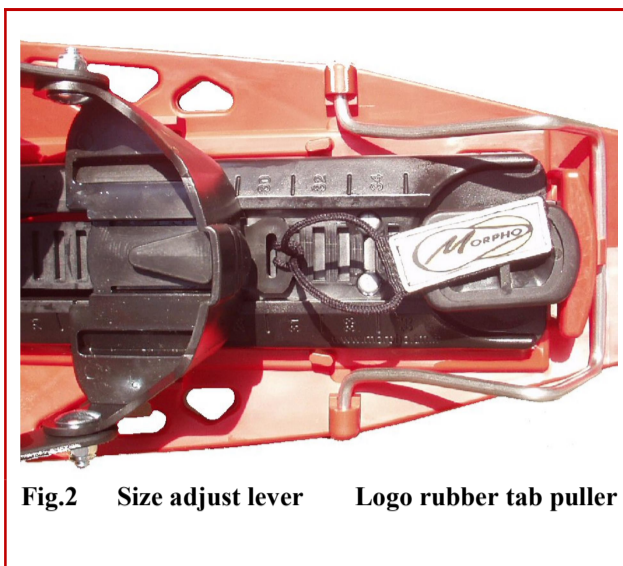
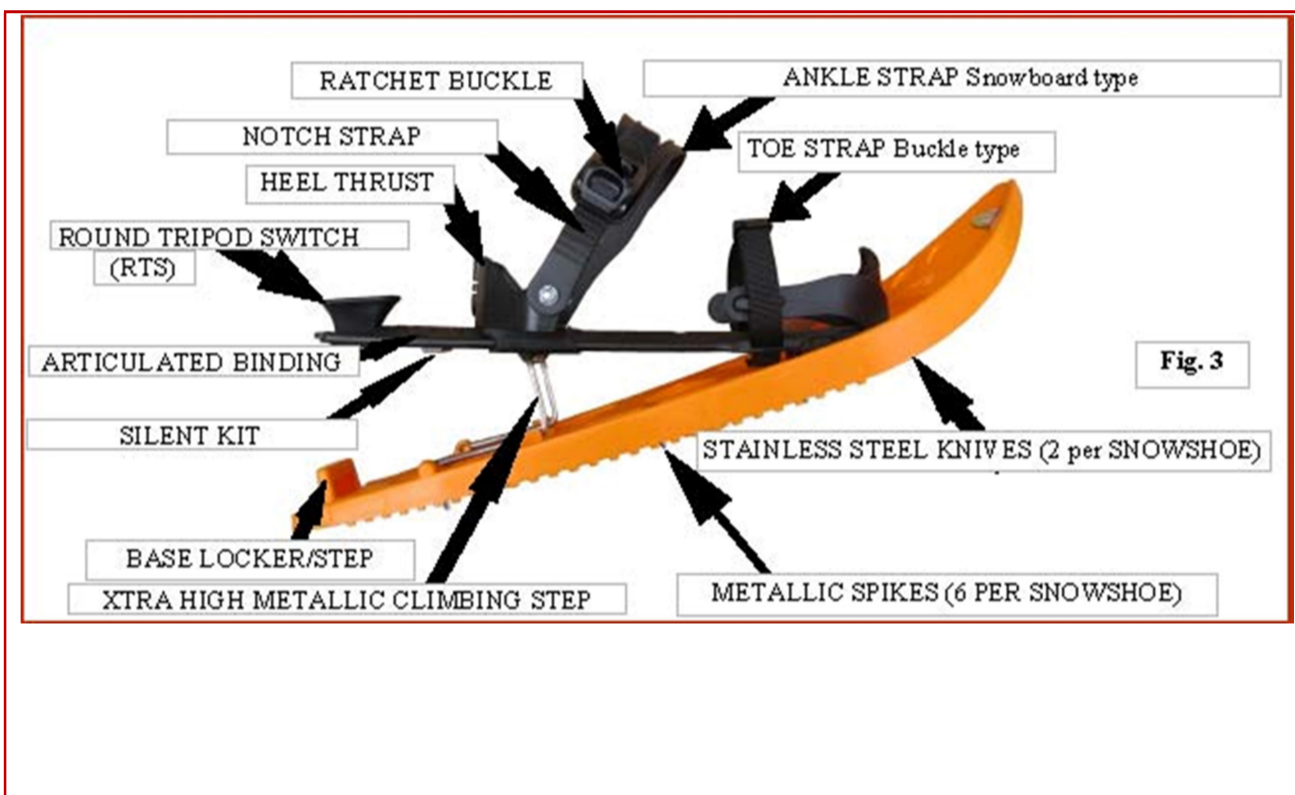

Fig.2 Size adjust lever Logo rubber tab puller
Fig. 3
1. Untighten **ankle strap** (by loosening completely the **notch strap** from the **buckle** of the strap) as well as the 2 **toe straps** so as to insert your boots and to adjust the **heel thrust** of **articulated binding** plate to your boot size. See Fig.3
3. Adjust the heel thrust to the proper size of your boot using the Morpholock system. See Fig.2:
6. **Snowshoeing:** keep **articulated binding plate free** from snowshoe base when going flat, traverse, uphill or downhill: the **RTS** unlocked from base locker/step in all cases. The articulated binding must **lay flat** on the snowshoe base or **stepping** on the extra high **metallic climbing step** when climbing steep slopes: for this purpose rotate the **climbing step** forward in its upwards position (fig.3) from its idle position (fig.2) with your gloves.
7. **After use, untighten ankle strap** first: push on the **release lever** of the ratchet buckle and pull out the ankle strap from the notch strap while keeping pressure on the **buckle push release lever**. Then untighten the 2 toe straps: pull up the ends of the quick buckles and loosen the webbings. See fig 3. Remove your boot. **To store** the snowshoe push the articulated binding on the base and lock it to the base by **rotating the RTS so as to insert it into the base locker/step**. See fig.2
.When rotating backward metallic climbing step to its idle position make sure to fully push it down until it is blocked by the 2 snowshoe base rear hooks. (fig.2)